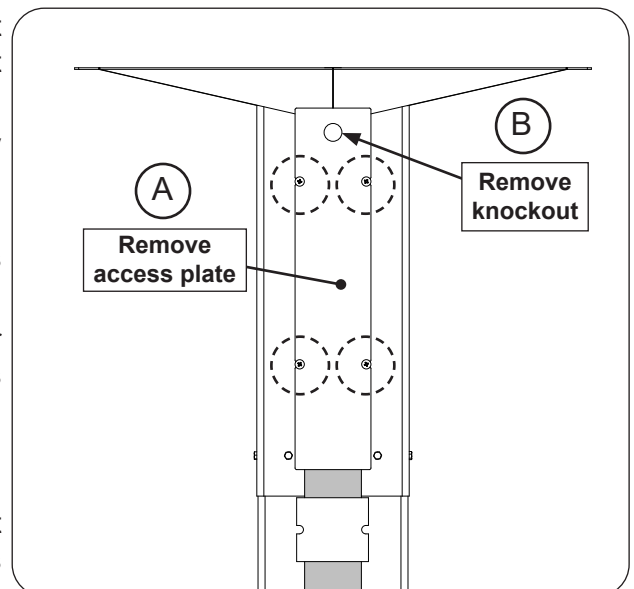

Fig. 30-2 Remove access plate and knock-out
2. Locate the rear access plate on the post base assembly and remove it by unscrewing the four Phillips-head screws. See Fig. 30-2, A.
3. Remove the knockout from the upper portion of the access plate. See Fig. 30-2, B.